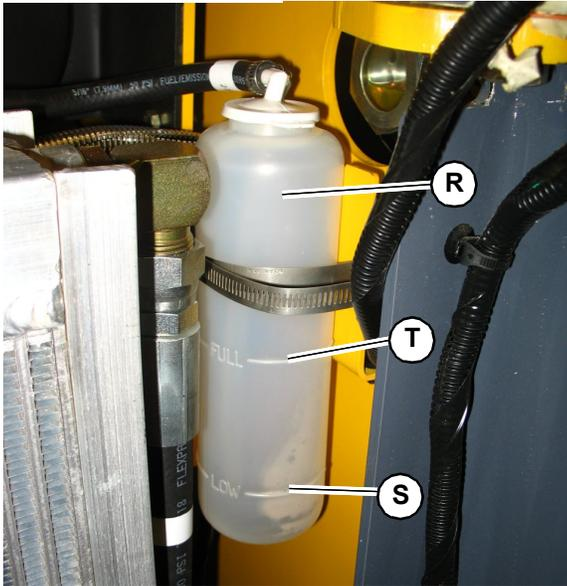

Fig. 134 – Coolant Expansion Reservoir
- Models RT175/RT210:** Check the coolant level in the expansion reservoir (R, Fig. 134). Coolant level must be between the full (T) and low (S) marks on the expansion reservoir. Add coolant to the expansion reservoir as required.